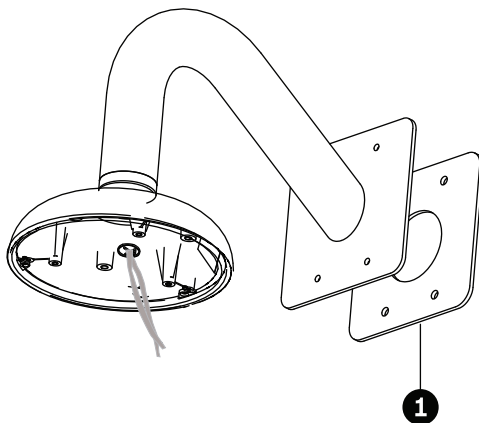

Figure 5.6 Secure arm to wall with flat gasket
- Thread the 21.82 mm I.D. by \varnothing 3.00 mm O-ring (item 1, above) onto the lower arm threads.
- Secure the retaining ring gasket (item 2, above) to the dome cap with the three (3) M3 – .5 x 6 Phillips flat head machine screws. Ensure that the side of the retaining ring with the counter-sunk screw holes is facing you.
7. Feed the wires through the hole in the surface, through the wall mount flat gasket (item 1, *Figure 5.6*) and then through the arm.